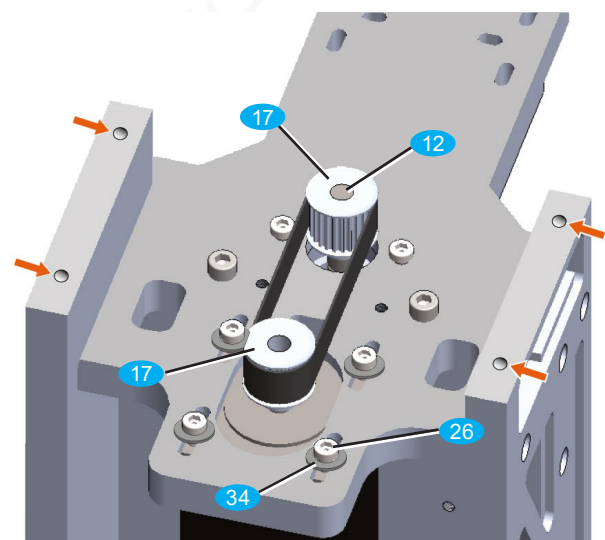

Fig. 7: Assembly of the axis drive
- Screw the timing belt cover **9** (not shown) to the stiffeners **4** and **5** with flat-head screws **32** (red arrows in Figure 7).